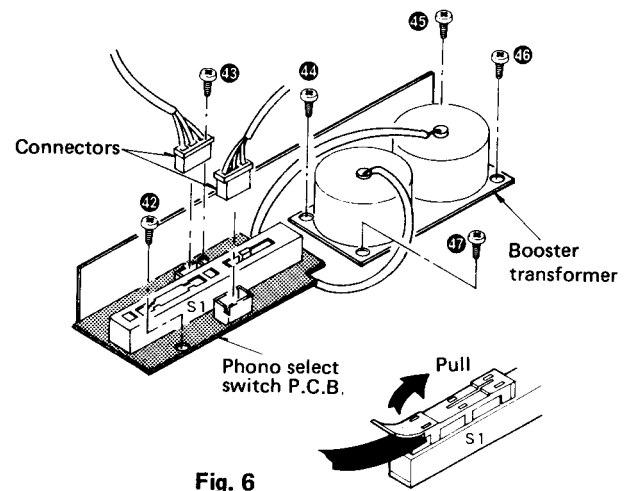

Fig. 6
3. Remove the remote cable of S1. [Fig. 6]
4. Remove the 2 connectors and the 2 setscrews [Fig. 6: ④② ~ ④③] of phono select switch (4) P.C.B.
5. Unsolder the booster transformer leads and 4 setscrews [Fig. 6: ④④ ~ ④⑦]